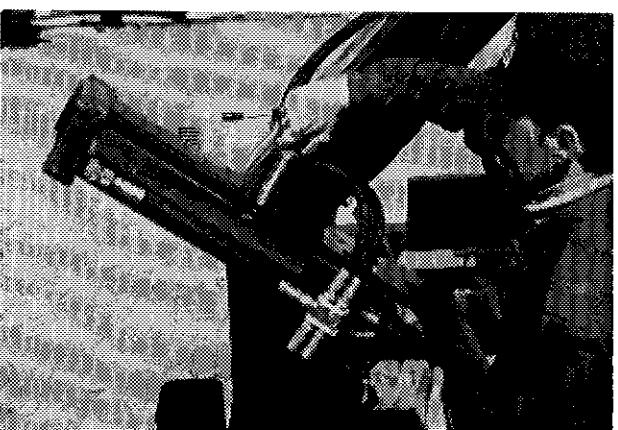

Figure 17
- 1) Position the six (6) stretcher hydraulic cylinder assemblies according to the size of ProTube used. Use the inside holes for 4 ft. tubes, 48" to 56" (1.22 to 1.42 m) (Fig.16). Use the outside holes for 5 ft. tubes, 56" to 66" (1.42 to 1.68 m) (Fig.17).